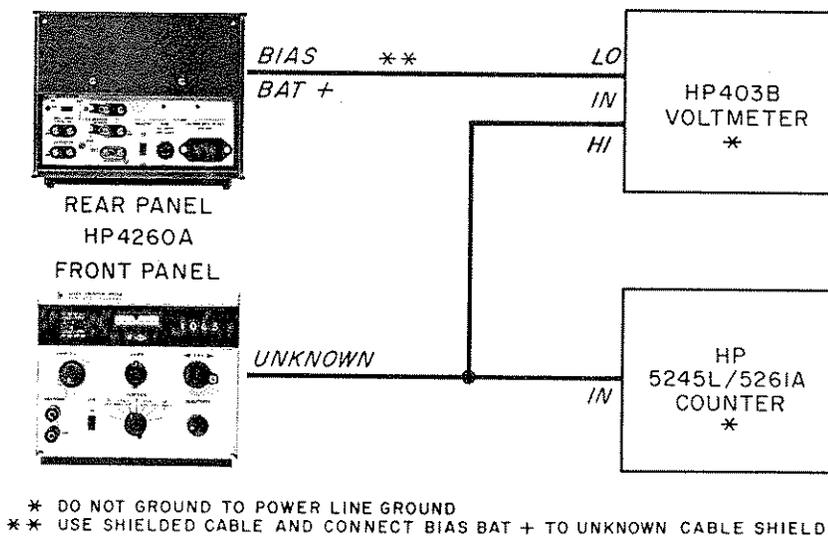

Figure 5-2. Internal Oscillator Check
a. Connect equipment as shown in Figure 5-2.